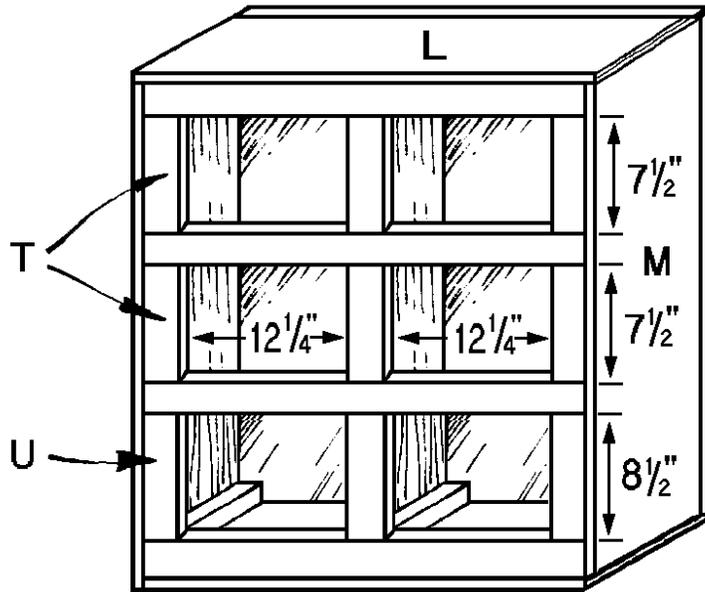

Figure 12
- The front of the drawer housing consists of rails (horizontal members) and stiles (vertical members). These are the finished front of the drawer housing and will accommodate the drawers. A diagram of the rails and stiles is shown in *Figure 12*. It is very important that each of the stiles and rails are installed exactly square, or your drawers will not fit properly.
- Cut four Rails (S) from 1 x 4 pine, each 35 inches long.
- Cut six Upper Stiles (T) from 1 x 4 pine, each 7-1/2 inches long.
- Cut three Lower Stiles (U) from 1 x 4 pine, 8-1/2 inches long.
- Attach the four Rails (S) at the front of the completed housing. Pay particular attention to the spacing between the rails. The four upper openings must be exactly 7-1/2 x 12-1/4
inches, and the lower two openings must be exactly 8-1/2 x 12-1/4 inches, as shown in *Figure 12*. All four of the Rails (S) fit inside the exposed edges of the Housing Sides (M) and Top and Bottom (L). The rails cover the exposed edge of the center divider leaving a 2-inch allowance at the front. Glue and screw them in place with 2"-long screws, screwing through the Rails (S) into the 2 x 2 pine supports.
6. Attach the six Upper Stiles (T) as shown in *Figure 12*. They will fit flush with the Rails, and cover the exposed edge of the Center Divider (P). Glue and screw them in place, screwing through the Stiles and into the Center Divider (P) or Side Supports (R). Again use 2"-long screws. Toenail each of the Upper Stiles (T) to the adjoining Rail (S).
7. Attach the three Lower Stiles (U) as shown in *Figure 12*. They will also fit flush with the Rails, and cover the exposed edge of the Center Divider (P). Glue and screw them in place, screwing through the Lower Stile (T) and into the Center Divider (P) or the Side Supports (R). Toenail each of them to the Rail (S) above and below.